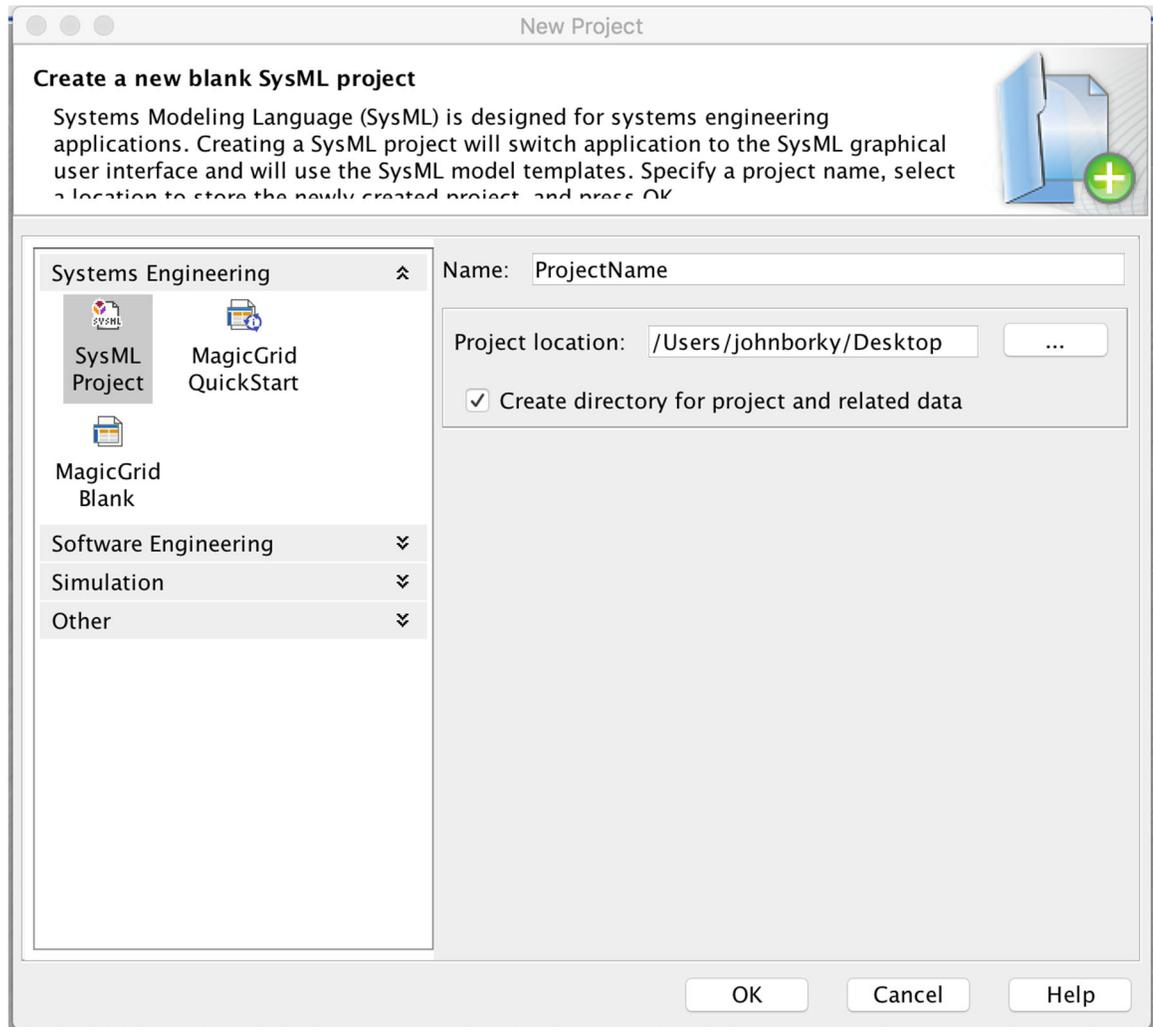

Figure 1. New Project Screen
- B. Give your project a name, navigate to the desired location to store your model, and check the box to create a model directory. Fig. 1 shows what this looks like.